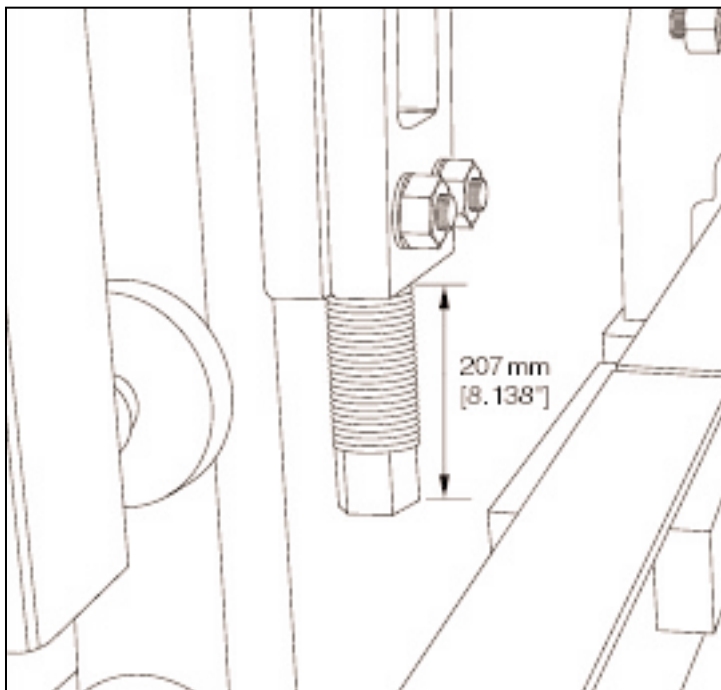

Figure 18.33 UPPER HEIGHT STOPS.
18.2.9 Adjust the upper height stops so that **207mm [8.138"]** extend past the bottom of the castings as shown on figure 18.33.